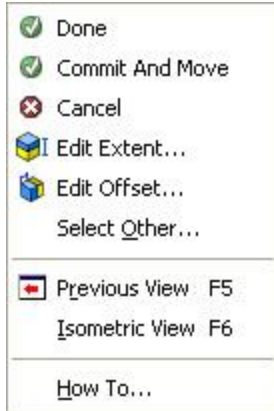

Figure 2. Menu selection lets you edit a feature.
- Right-click on an arrow and select Edit Extent or Edit Offset (figure 2)